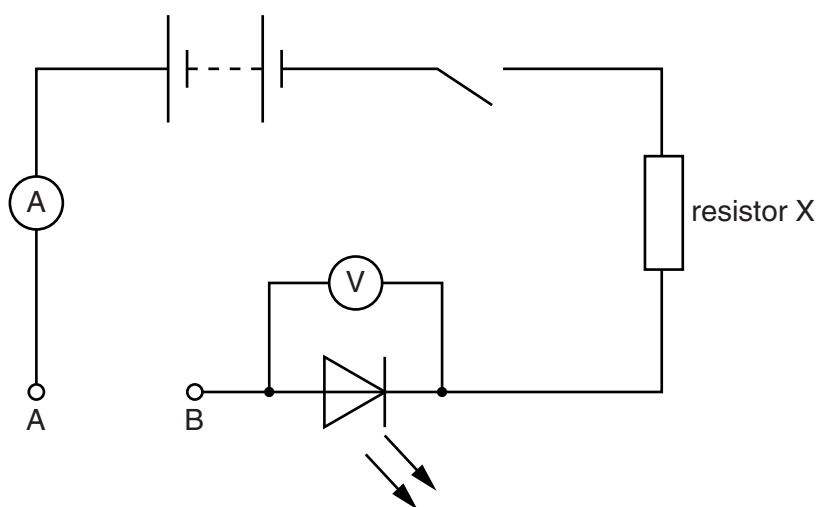

Fig. 4.1
3. The Supervisor should set up the arrangement shown in Fig. 4.1. The points A and B should be clearly labelled.
5. At the changeover the apparatus should be restored to its original state as in Fig. 4.1, removing any resistors between A and B.